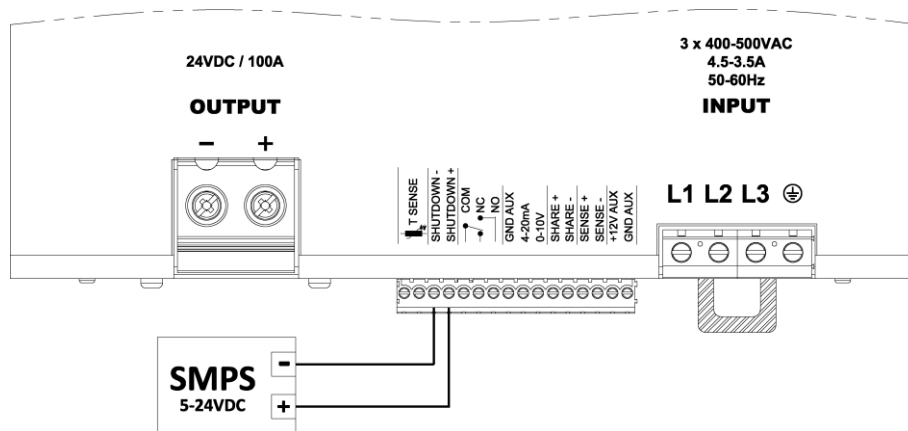

Figure 14 Remote shutdown input connection with external signal
- External signal:** when applying an external DC voltage as shown on Figure 14 from 5VDC to 24VDC to the SHUTDOWN inputs the NPS2400 output will be turned ON or OFF depending on the programmed shutdown polarity (see §6.4.9).
An integrated user interface composed of an LCD (alphanumeric, 2 x 16 characters, with backlight), 2 status LEDs and 4 buttons is present on the NPS2400. Through this interface the user can modify, monitor and control the SMPS behaviour. The physical layout of the interface is shown in Figure 14.